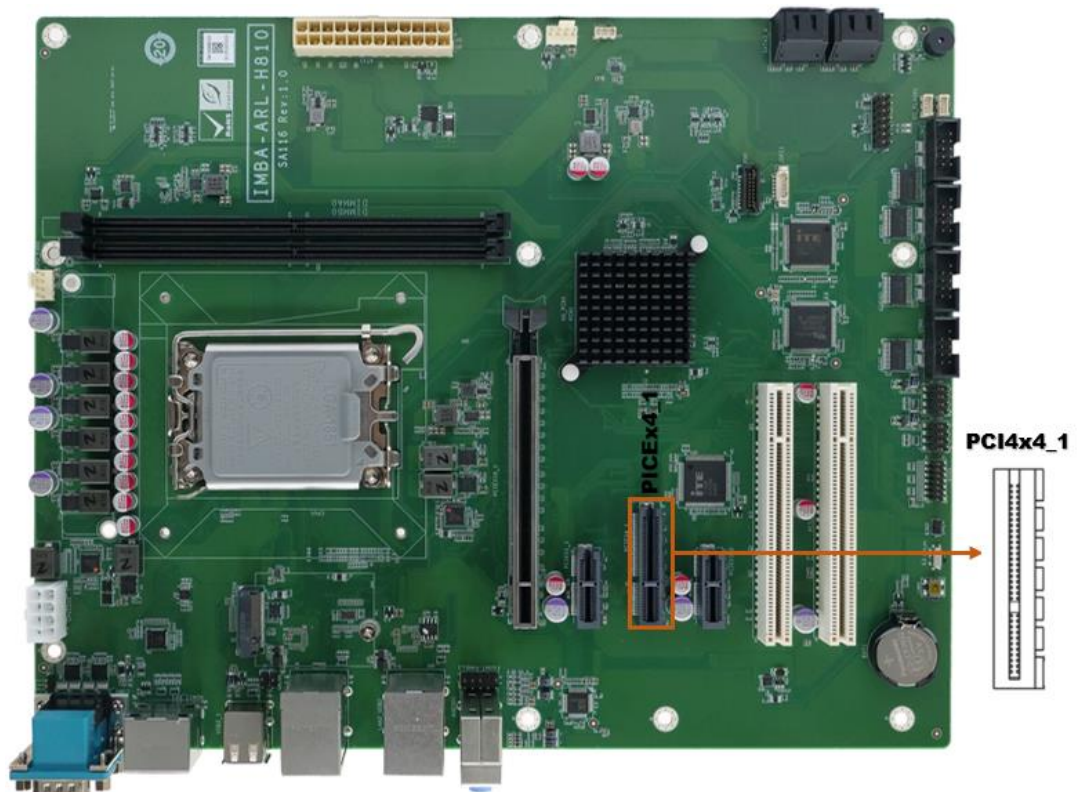

Figure 3-25: PCIe x4 Slot Locations
- CN Location:** See **Figure 3-25**